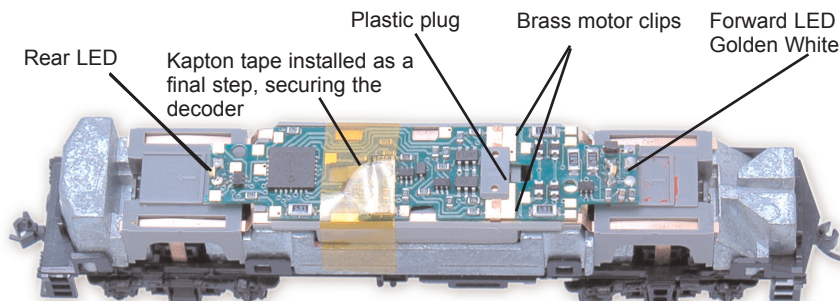

Figure 3: Install the decoder, bend brass motor clips over decoder, reinstall plastic plug to hold decoder in place.
6. **Make sure the Kapton tape wraps completely around the brass pick up rails.** Bend the motor clips down over the pads on the decoder. Reinstall the plastic plug to hold the motor clips tightly against the pads of the circuit board and the circuit board in place. If the plug is not secure, the motor will not function properly. **The final step in the installation process is to add a piece of Kapton tape extending from one side of the loco frame, up and across the decoder to the other side of the frame, thereby insuring the decoder remains securely in position** (see Fig 3 below)
The final step in the installation process is to add a piece of Kapton tape extending from one side of the loco frame, up and across the decoder to the other side of the frame, thereby insuring the decoder remains securely in position (see Fig 3 below)